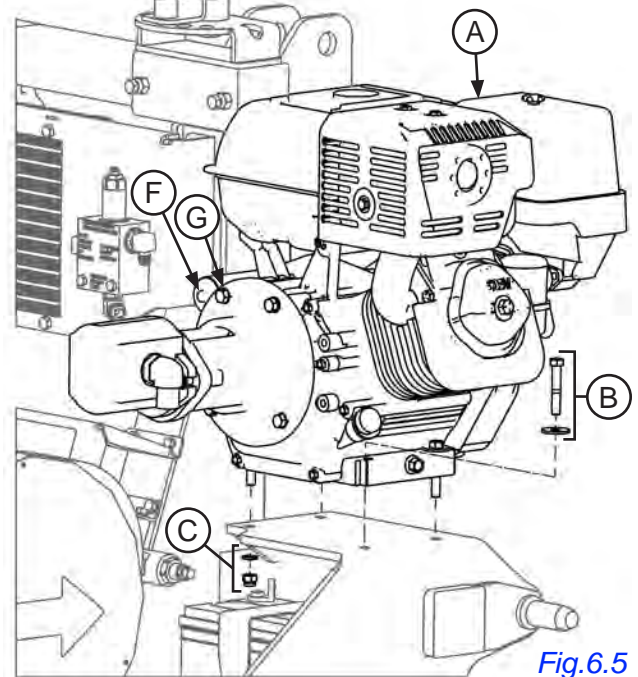

Fig.6.5
4. Lift powerpack engine (A) onto its mount on the bale wrapper front right corner, above the right three point hitch pin. Fasten into place with 4 3/8" x 2-1/4" hex bolts, 4 3/8" flat washers (B), 4 3/8" lock washers and 3/8" lock nuts (C). See Fig.6.5.